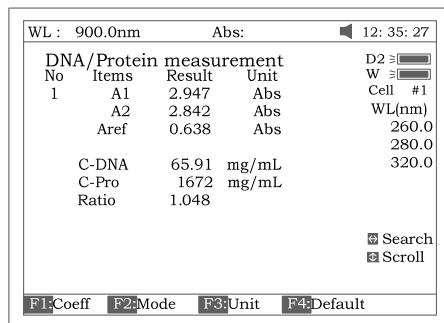

Fig 65
- Pull the sample cuvette into main light path, press [**START**] to test the sample. The test result will be displayed on the screen (Fig 65).